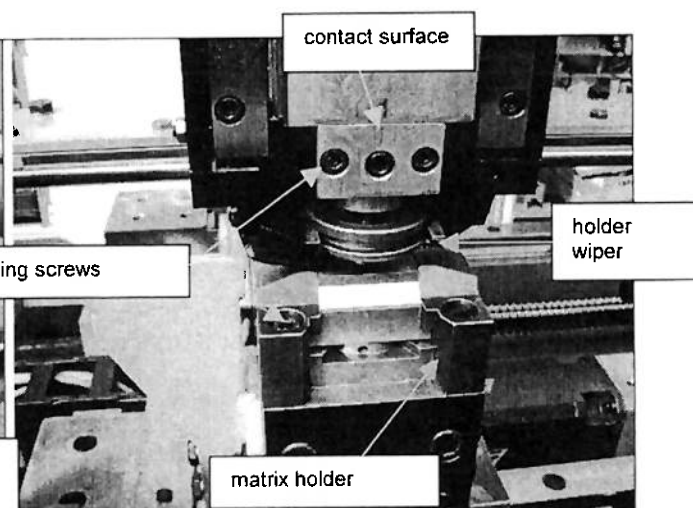

Fig. 5
7. Tighten the fixing bolts of the die holder. Torque 12 Nm; the holder must fit closely to the upper contact surface. (Fig. 5)